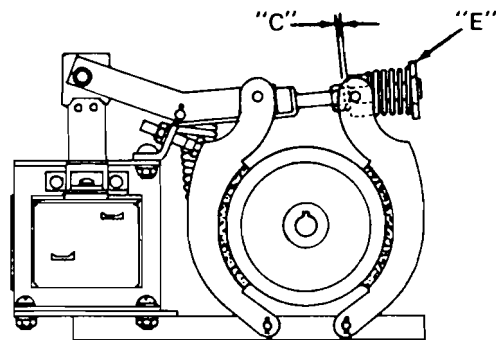

Figure 16. Solenoid Brake
(1) The brake has been preadjusted at the factory and requires no further adjustment at initial installation. When adjustment is required due to brake lining wear, follow the instruction sheet found in the starter enclosure or paragraph 2.
(2) See Figure 16. When the lining wears, the clearance "C" decreases. Never permit this clearance to become zero. When the clearance "C" becomes low, adjust to 1/64" by turn screw "E".